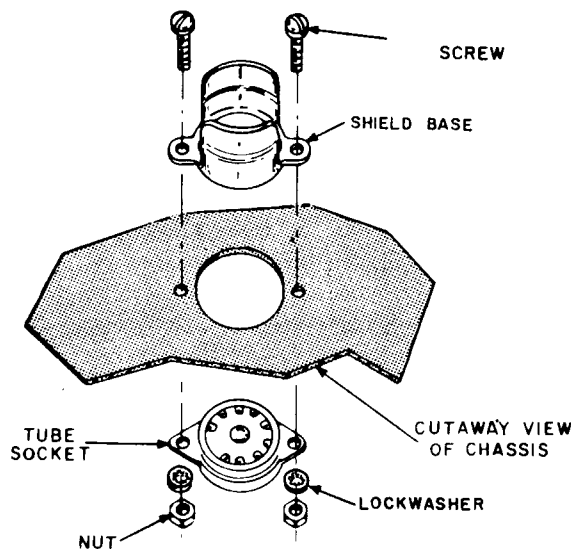

FIGURE 3. SHIELD BASE MOUNTING
- Four 9-pin tube sockets and four shield bases for V-1 through V-4. The socket with the center pin is V-1. Position the shield bases on top of the chassis and the sockets on the bottom with the keyways positioned as shown. Mount each with two 4-40 x $\frac{1}{4}$ " screws, #4 lockwashers and nuts as shown in Figure 3.